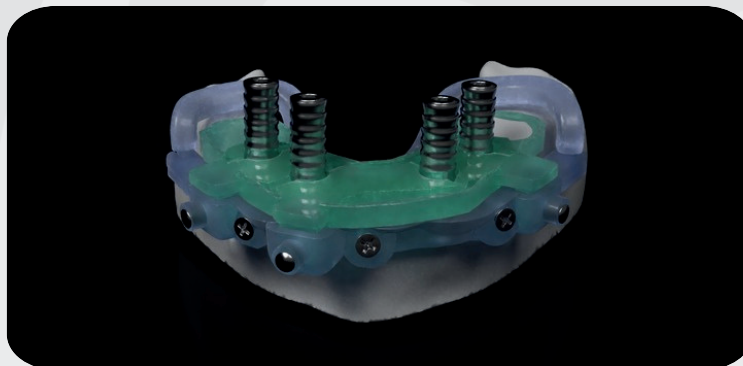

Fig. 16
Step 8: Remove the abutment orientation piece, then torque the Titanium Cylinders to the MUAs according to the manufacturer's instructions, then insert the Isolation Gasket into the cylinders (Fig. 16)